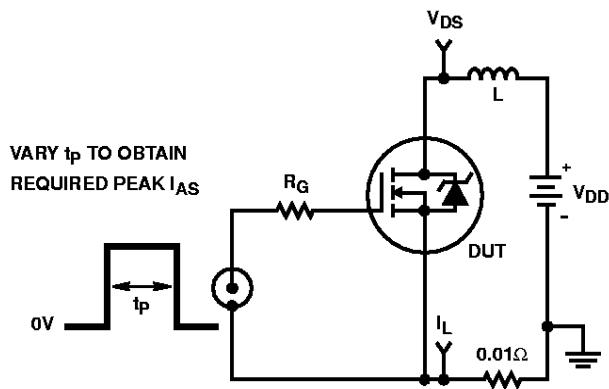

FIGURE 15. UNCLAMPED ENERGY TEST CIRCUIT
4. $V_{DD} = 20\text{V}$, start $T_J = 25^\circ\text{C}$, $L = 8.9\text{mH}$, $R_G = 50\Omega$, peak $I_{AS} = 5.5\text{A}$ (Figures 15, 16).